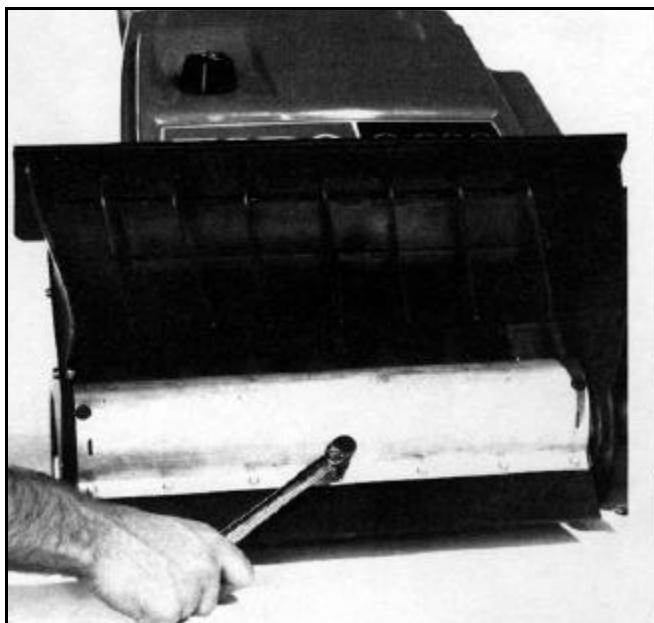

Figure 167
4. Reinstall the screws that retain the paddle and rotor halves. Torque the screws 15 in-lbs (DO NOT OVERTORQUE!) (Figure 167).